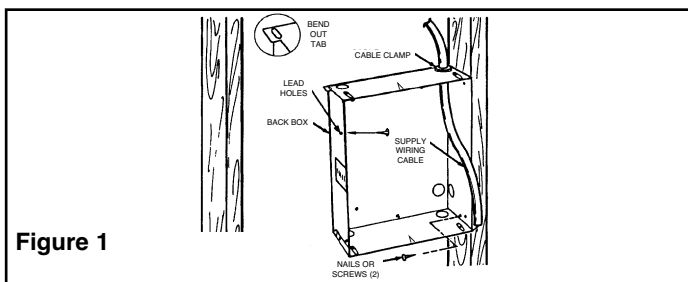

Figure 1
1. Determine which side of the back box is to be mounted against a stud and bend the tabs at the rear corners out 90 degrees so that the back box will be square with the stud after installation. (See Figure 1).
3. Position back box against side of studs and secure using nails or screws as shown in Figure 1.
NOTE: Lead holes for a #8 sheet metal screw have been provided in the sides of the back box. After the finished wall or ceiling has been put up, drive a # 8 sheet metal screw (recommended 1" long) through the side of the box not mounted to the stud. This will prevent the back box from pulling out when installing the heater assembly. (See Figure 1)